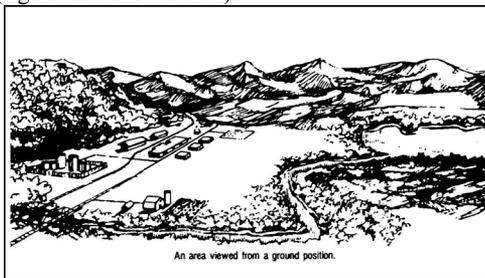

Figure 071-329-1012-1. Features used to orient map
2. Match terrain features appearing on your map with terrain features you can see on the ground (figure 071-329-1012-1).